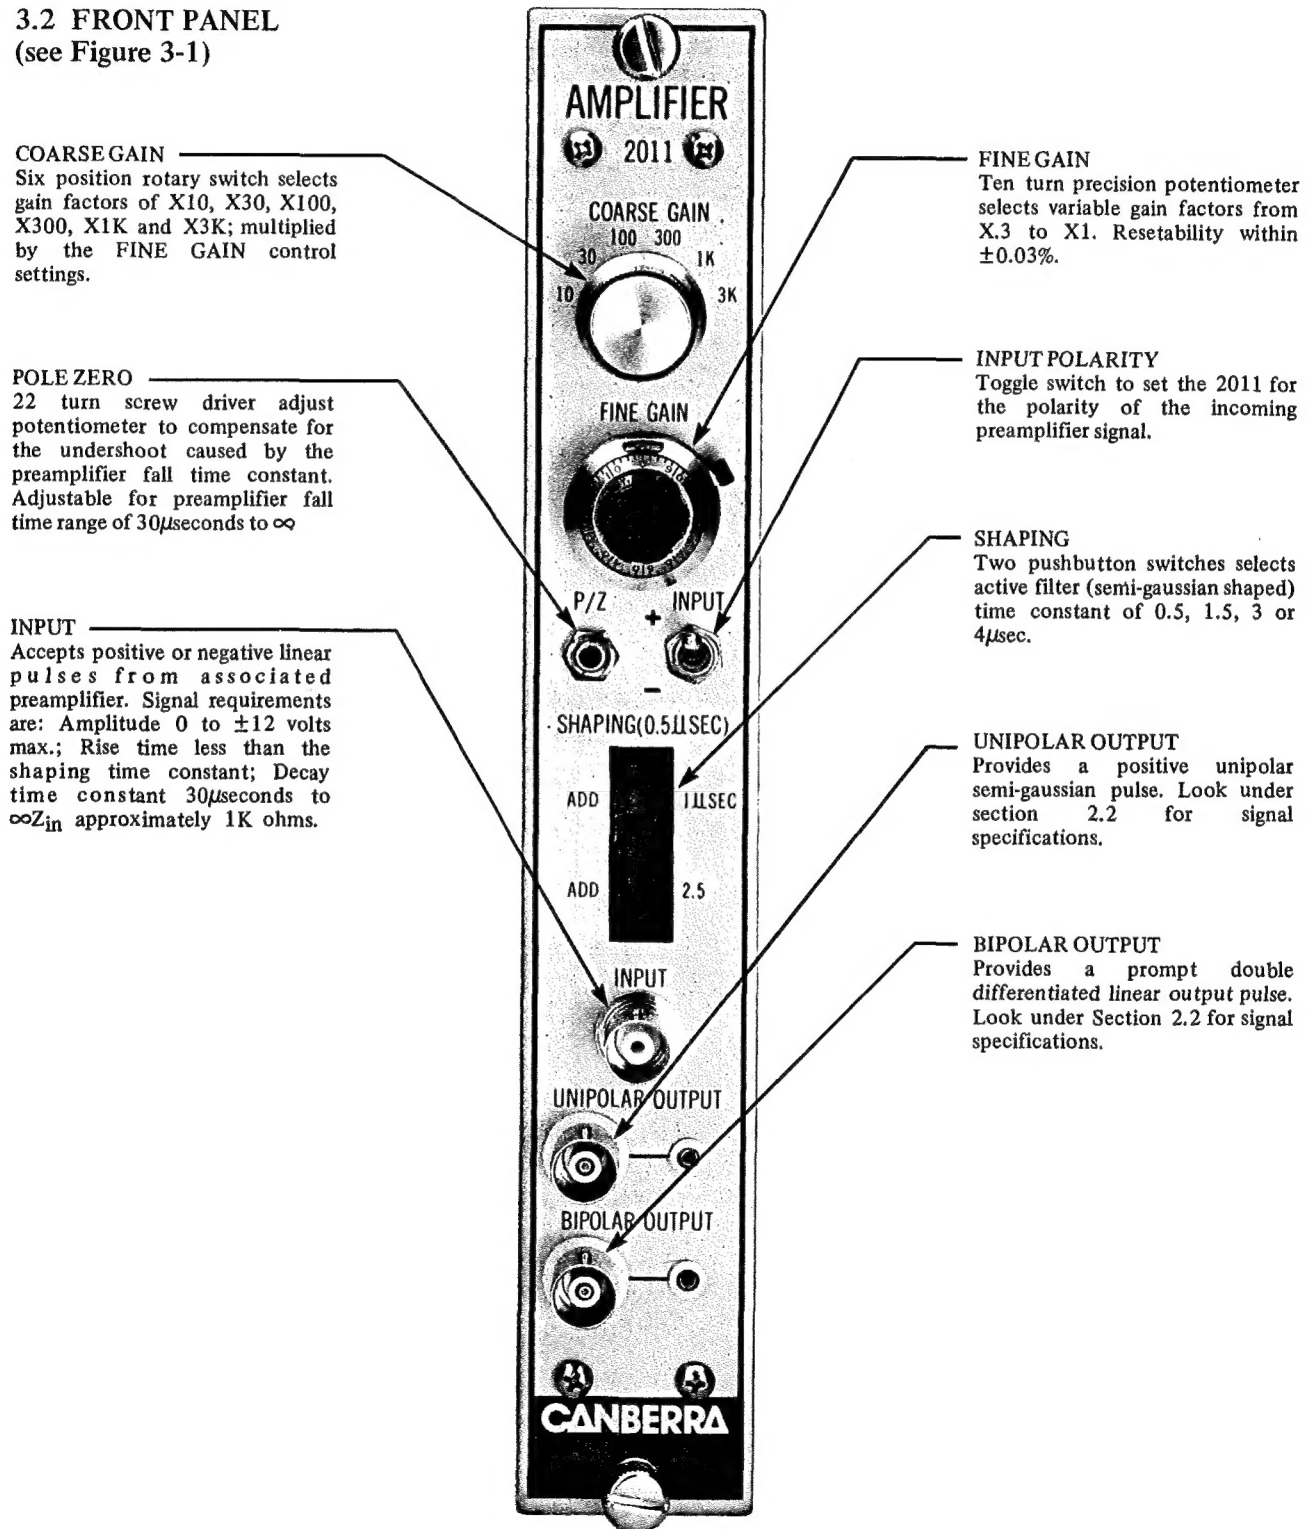

Figure 3-1. Front Panel Controls and Connectors.
3.2 FRONT PANEL (see Figure 3-1)